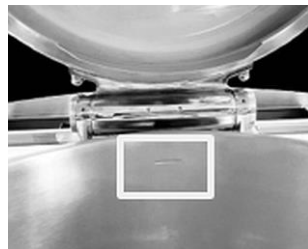

Fig. 11
Do not operate the appliance before filling the cooking container and the cavity with water up to the MAX mark (Fig. 11).
3. Open the corresponding water inlet tap (Fig. 12) to fill the cooking container with warm or cold water to the desired level, but no higher than the MAX mark (Fig. 11). Take into account the volume of the products to be cooked.